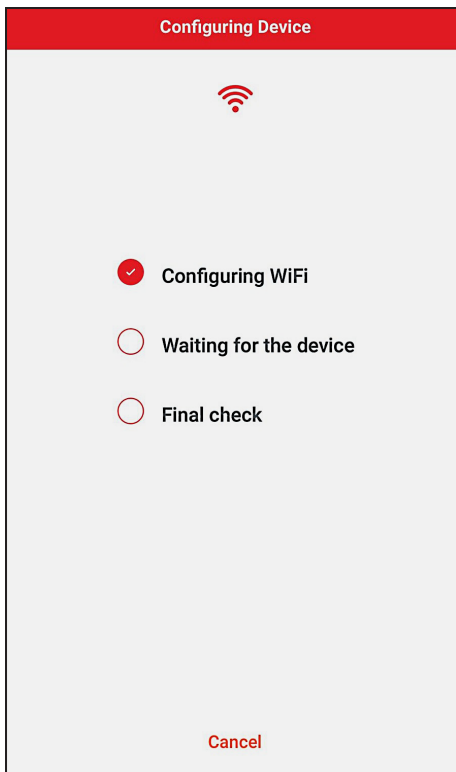

Figure 93. Configuring Device
- The Raymote mobile app will provide the Wi-Fi network credentials to your unit. See **Figure 93**.